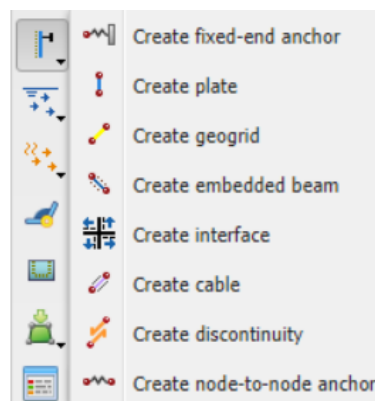

Figure 43: Create plate option
2. In the expanded menu select the **Create plate** as shown in Figure 43 (on page 57).